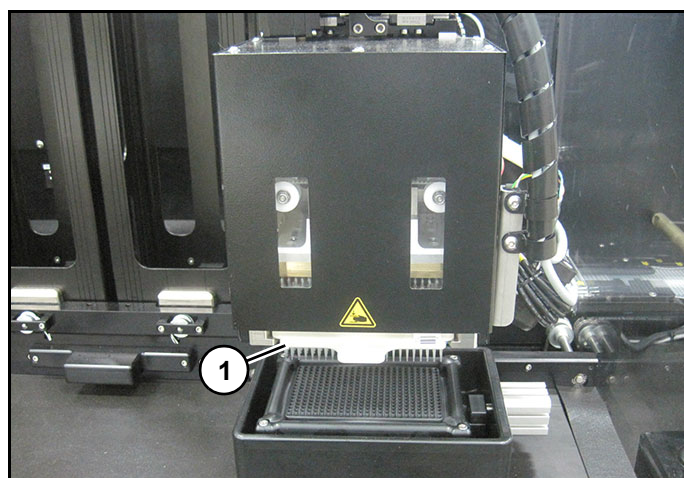

Figure 20
4. Lift guard door and remove tip tray (1) (Figure 20).